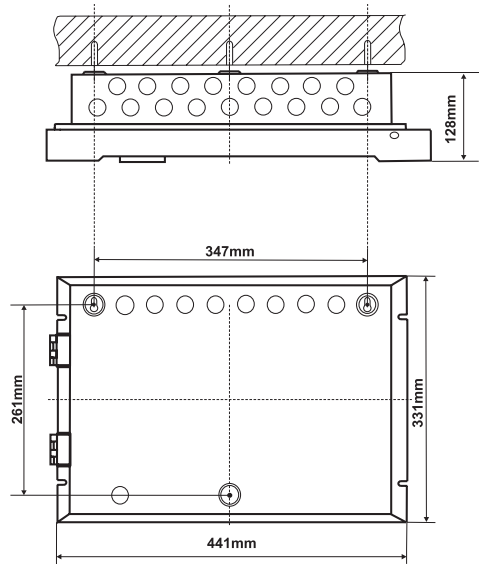

Figure 5.
- Drill  $\text{Ø}6\text{-}8\text{mm}$  diameter openings in the wall and fix the box using the provided anchors and screws (Positions 2 and 4, page 31) - Figure 5.